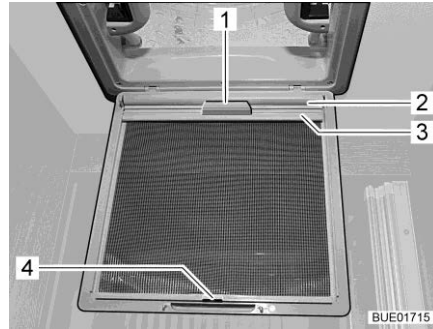

Fig. 114 Blind (skylight)
- Using the handle (Fig. 114,1), pull out the blind (Fig. 114,2) and hook the retainer (Fig. 114,3) into the hook (Fig. 114,4) on the insect screen.
- Release the retainer (Fig. 114,3) from the hook (Fig. 114,4) and, using the handle (Fig. 114,1), slowly return the blind (Fig. 114,2).